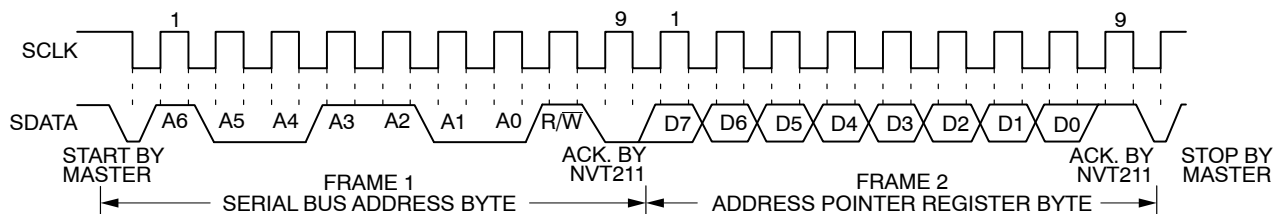

Figure 17. Reading Data from a Previously Selected Register
- A read operation is then performed consisting of the serial bus address, R/W bit set to 1, followed by the data byte read from the data register see Figure 17.